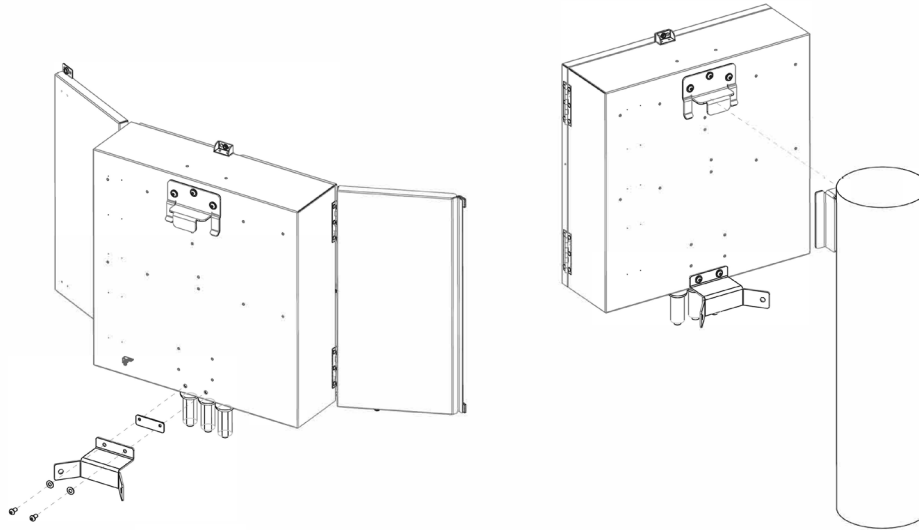

Figure 7. Installing Bottom Bracket to Cabinet and Cabinet on Pole-Mounted Bracket
10.1.2 Use the 2 bracket mounting capscrews to secure the bottom mounting bracket to the cabinet in the specified mounting location. Tighten each capscrew securely, shown in Figure 7.
- 10.1.4 Hang the cabinet from the installed top mounting bracket. The welded bracket on the back of the cabinet, shown in Figure 7, fits into the two slots at the top of the top mounting bracket.